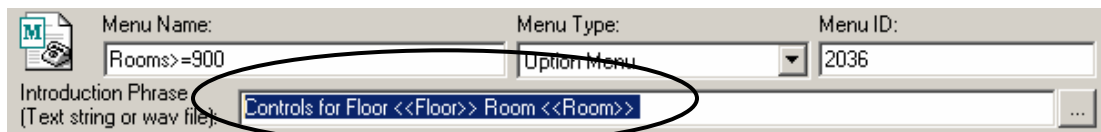

Figure 9.34. Aliases Added to Configuration
- The alias names that you selected (inside the double angle brackets: e.g. <<Floor>> and <<Room>>) are inserted at the current cursor position inside the text message field in the **Introduction Phrase** field, as shown in Figure 9.34.